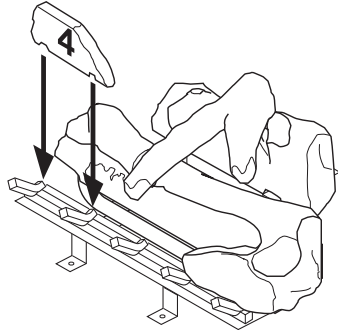

Figure 42 - Installing Log No. 4
5. Place log #4 (small log) onto front left part of grate making sure the notches fits over the prong of the grate. See Figure 42, page 25.